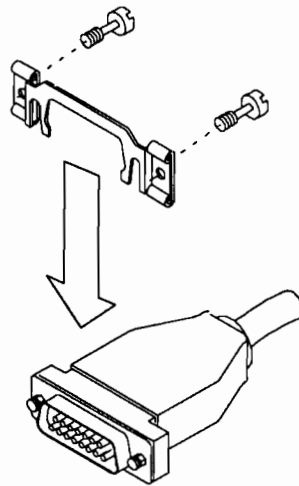

Figure 7-7. Assembling Adapter Plate to Connector
2. Insert the screws into the clips on the adapter plate assembly as shown in Figure 7-7. Align the slots on the adapter plate with the lock posts on the network cable's connector. Slide the adapter plate onto the connector as shown in Figure 7-7.